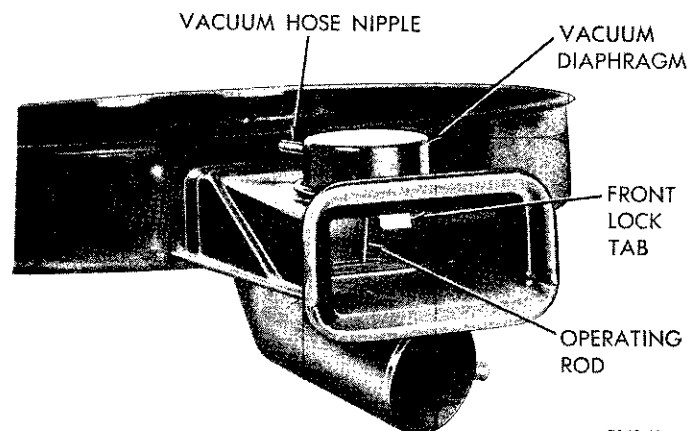
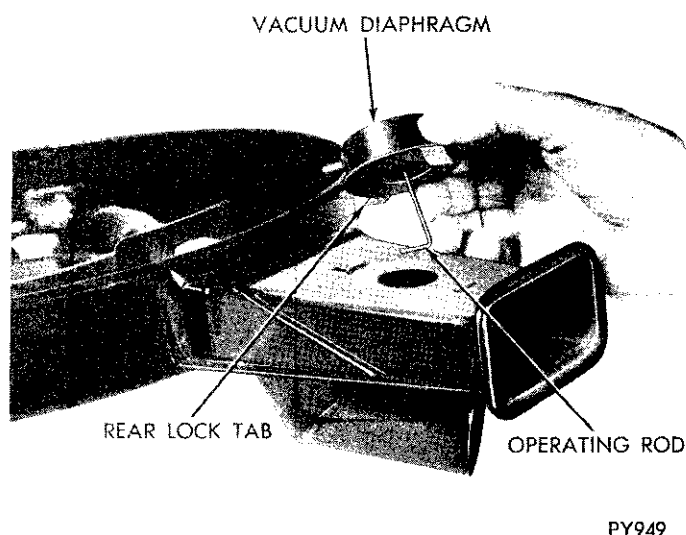

Fig. 6—Opening Front Lock Tab
Fig. 7—Removing or Installing Vacuum Diaphragm
(1) Bend down lock tab (Fig. 6) and carefully lift forward edge to clear lock tab, then slide forward to disengage rear lock tab, then slide to right to unhook operating rod from heat control door (Fig. 7).
(2) With the vacuum diaphragm removed, check the door for freedom of travel. When the door is